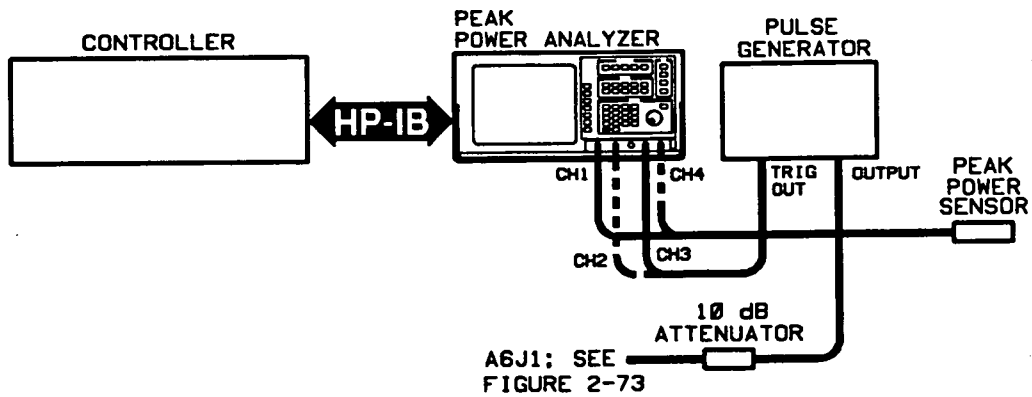

Figure 2-70. Baseband Board Adjustments Setup
11. Connect the Peak Power Analyzer and test equipment as shown in Figure 2-70. Connect the peak power sensor to channel 1 and the trigger output to channel 3 when adjusting channel 1. Connect the peak power sensor to channel 4 and the trigger output to channel 2 when adjusting channel 4.